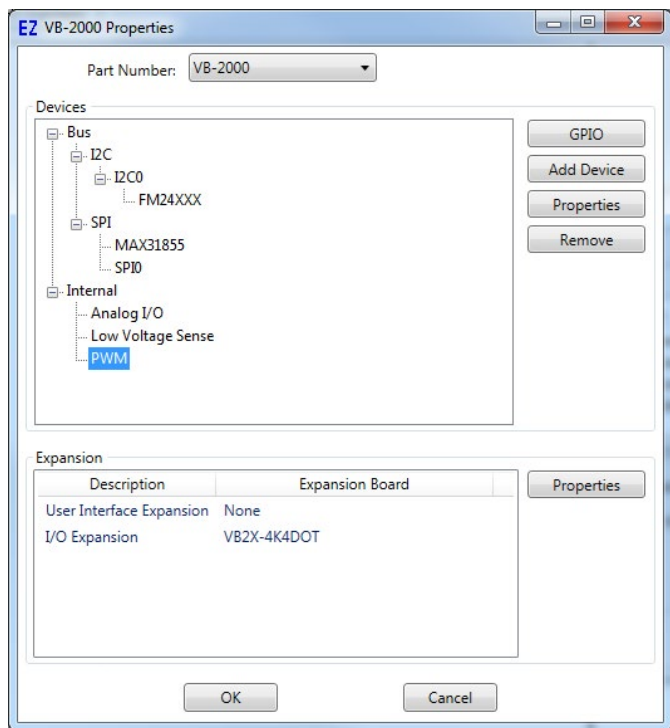

Figure 2-8 - VB-2XXX Properties
3. If PWM is listed under the **Internal** heading, then PWM has been installed (for outputs on the VB-2XXX controller). Only the VB2X-4TCDOTAO PWM channels need to be configured. If PWM is listed under **Internal**, highlight (select) it and click **PROPERTIES**, otherwise, click the **ADD DEVICE** button. Refer to Figure 2-8.